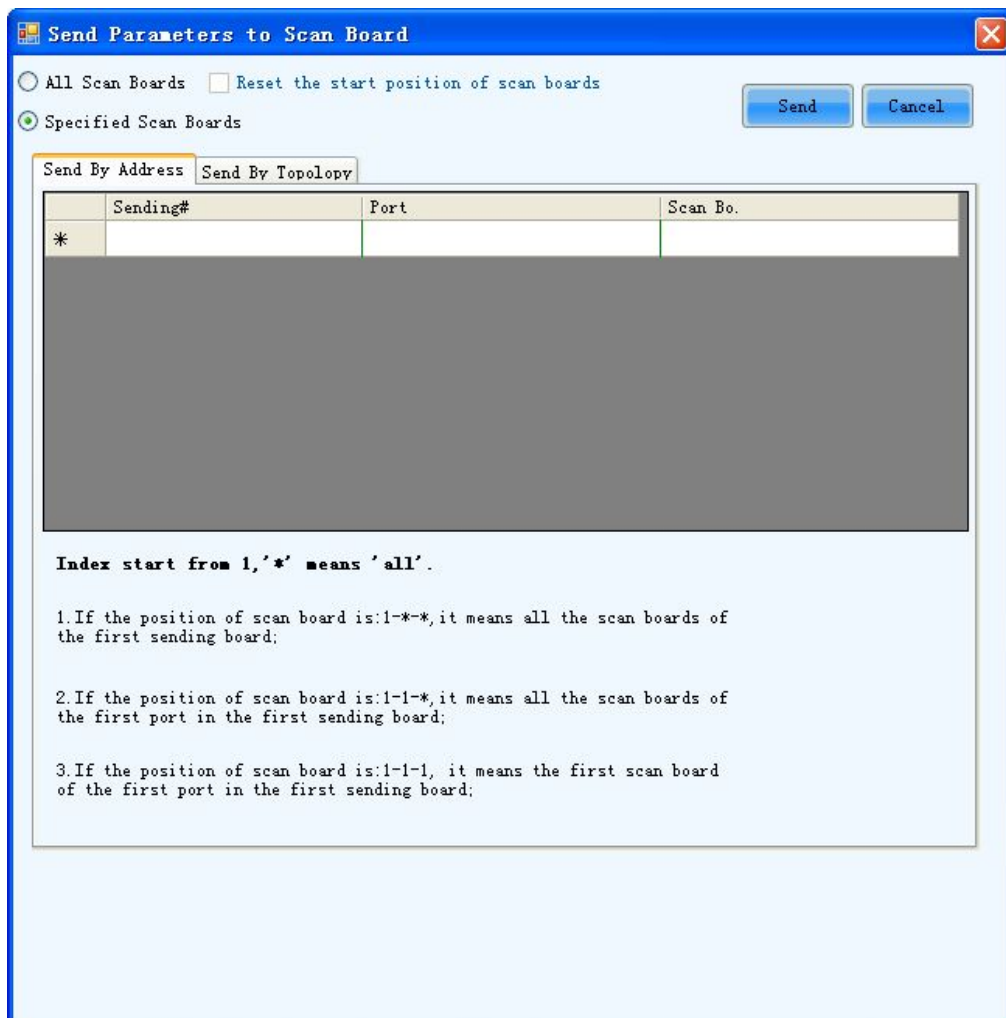

Fig. 5-35 The Send by Address page
This option is for sending parameter settings to specific receiver cards. There are two ways for sending parameter settings to specific receiver cards, by address and by sketch map. Corresponding pages are shown in Fig.5-35 and Fig.5-36.
Shown in Fig.5-35 is the Send by Address page. The Sending#, Port and Scan Bo are used to specify the receiver cards to which the settings will be sent. Set these three parameters according to the instructions given at the lower half of the page.
2. Ethernet ports of the same sending board can also be set as hot backup of each other. As in Fig.5-35, the Ethernet port 2 is the hot backup of the Ethernet port 1.